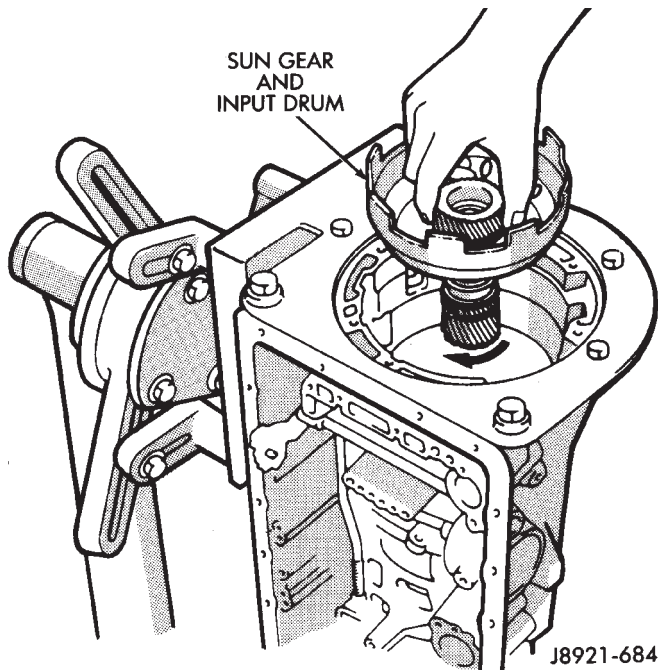

Fig. 140 Installing Sun Gear And Input Drum
(32) Install planetary sun gear and input drum (Fig. 140). Be sure drum thrust washer tabs are seated in drum. Use petroleum jelly to hold thrust washer in position if necessary.